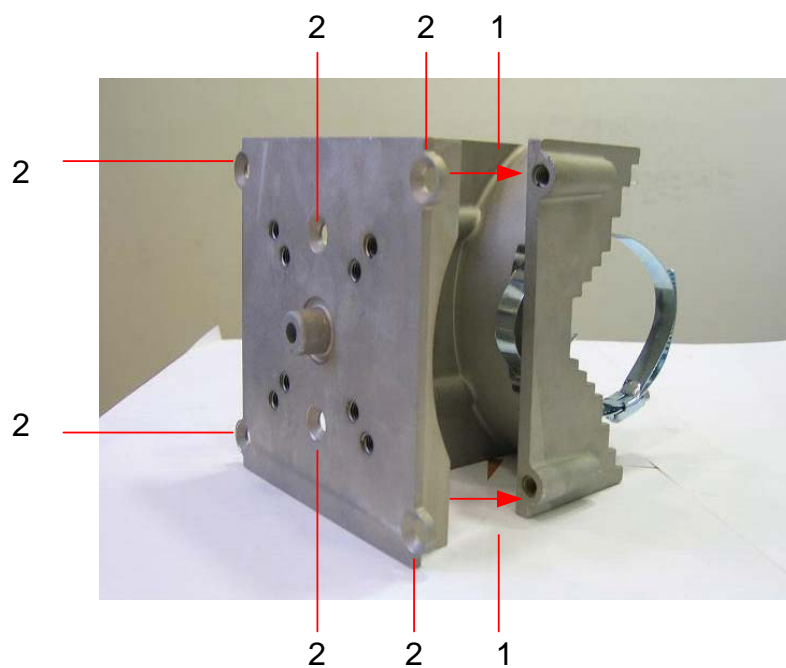

Figure 3.6. **Attaching the Back Plate to the Pole Bracket**
4. Attach the back plate to the hose bracket as labeled #1 in Figure 3.6
5. Insert the six flathead bolts into the holes in the back plate labeled #2 in Figure 3.6 and tighten.